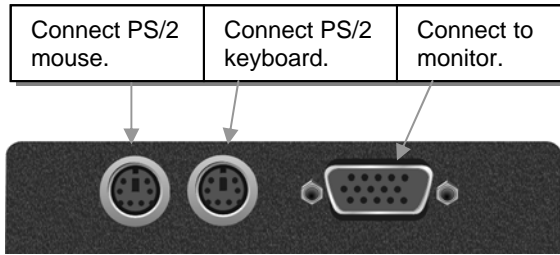
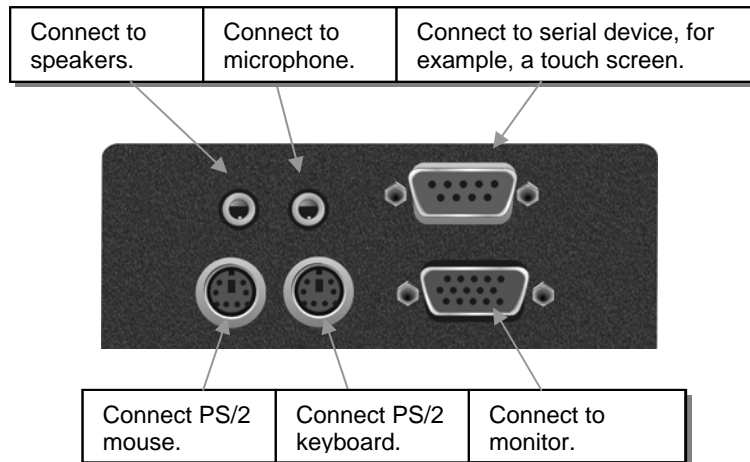

Figure 2 *Standard Mini Remote Unit/Hub Port – rear view (SDLink/RLC, SDLink/LC, SDLink/DM, SDRK/6R)*
Figure 3 *Audio Mini Remote Unit/Hub Port – rear view (SDLink/MAR, SDLink/AM, SDRK/6RA)*
2. Connect your keyboard, monitor and mouse to the Remote Unit/Hub port as shown in Figure 2 (Standard) and Figure 3 (Audio/Serial).